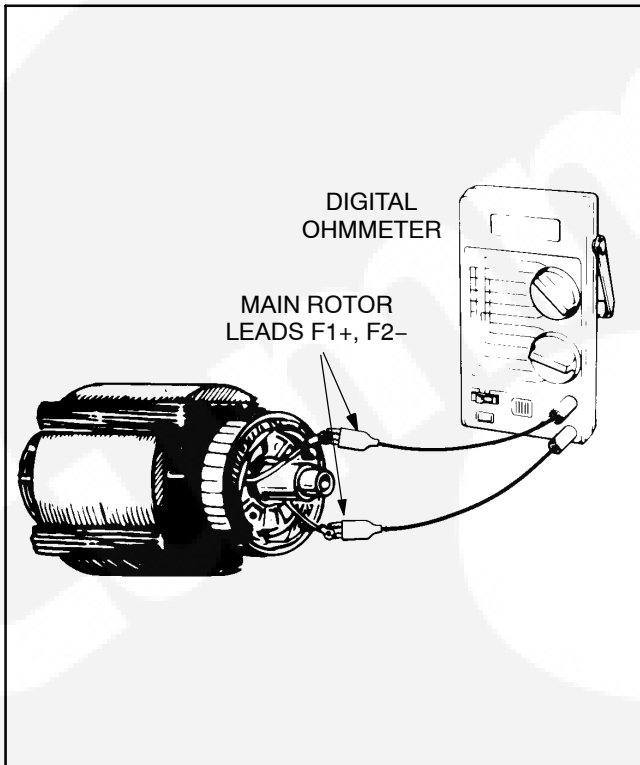

FIGURE 5-11. TESTING WINDINGS RESISTANCE
- Using an ohmmeter, measure the resistance between F1+ and F2- (see Figure 5-11).